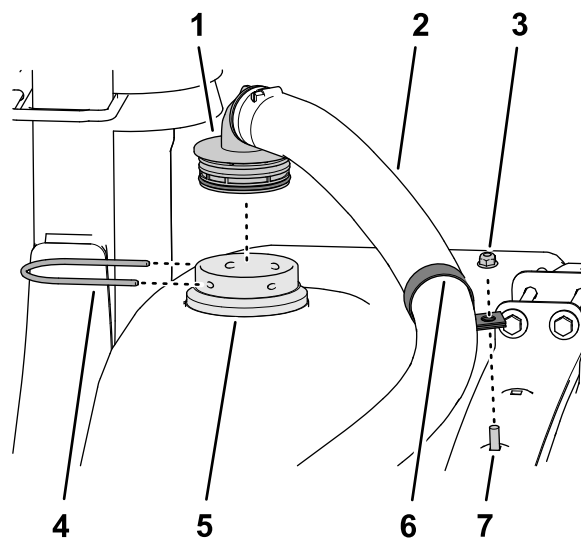

Figure 29
4. Install an R-clamp over eductor hose assembly (Figure 29).
5. Assemble the 90° barbed fitting of the eductor hose assembly into the bulkhead fitting and secure the barbed fitting to the bulkhead fitting a retainer (Figure 29).
6. Loosely assemble the R-clamp onto the carriage bolt and secure the clamp (Figure 29) with a flange locknut (5/16 inch).
Note: If needed, adjust the position of the R-clamp to align the eductor hose (Figure 29).